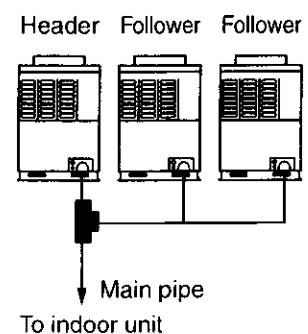

Figure 3
- 3) Be careful to direction of T-shape branching joint. (As shown in Figure 3, T-shape branching joint cannot be attached so that refrigerant of the main pipe flows directly to the header unit.)